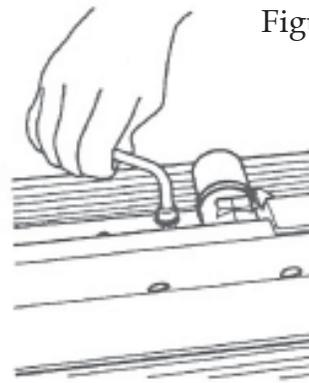

Figure D-58
3. After the fence boards are parallel with each other, tighten the shaper fence's socket head cap screws, as shown in Figure D-58.